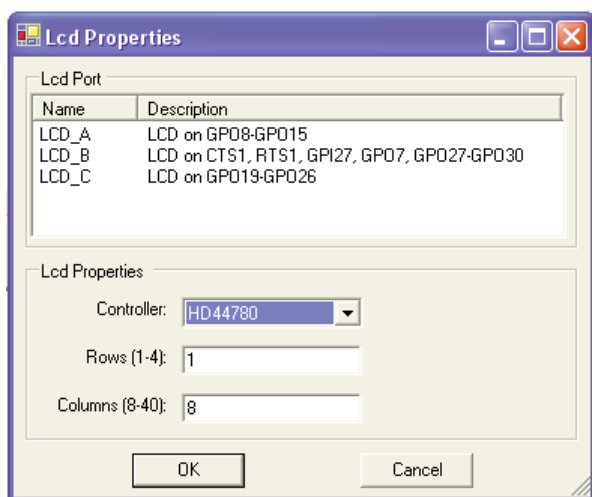

Figure 13.2
7. Click the **PROPERTIES** button. The LCD Properties dialog will open. This dialog is used to configure the LCD display on the target. See Figure 13.2.